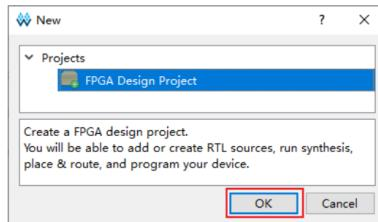

Figure 3: Creating project interface
- Click the New Project, the New dialog box will appear, as shown in Figure 3 below, click the OK button.